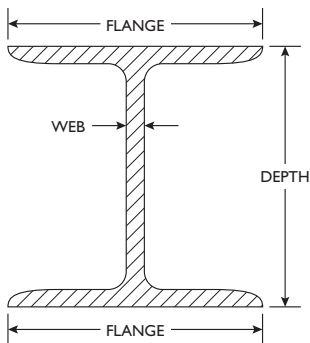

Fig. 39-4 Standard wide flange.
Wide flange beams are also referred to as "B," "CB," or "H" shapes. They may also be compared to an I-beam with extra wide flanges. The symbol used to indicate the standard wide flange shape is (WF). The usual method of billing is to state the depth, the symbol, the weight per foot, and finally the length—for example, 12 (WF) 45—24'8" (Fig. 39-4).